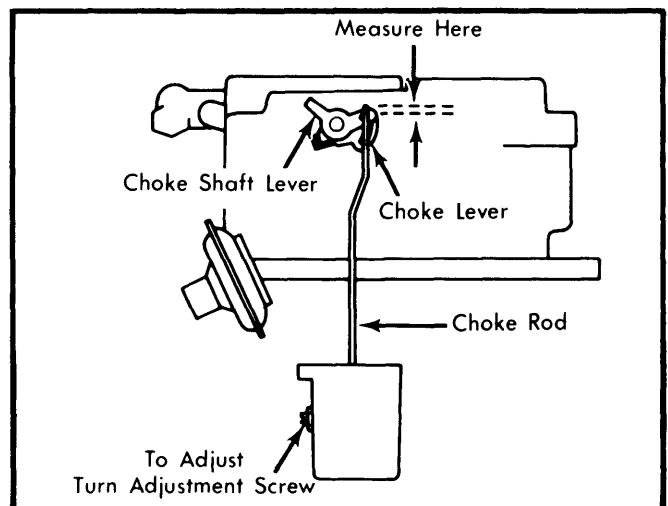

Fig. 17 Adjusting Automatic Choke (International Harvester Models)
1) Disconnect choke rod from choke shaft lever. Remove cover from choke thermostatic coil housing. See Fig. 17.